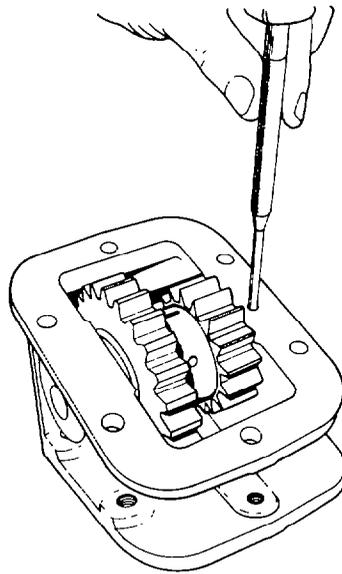

Fig. 390 — Driving Roll Pin into Shaft
- a. Using a suitable drift and hammer, drive the roll pin completely into the shaft (see fig. 390).